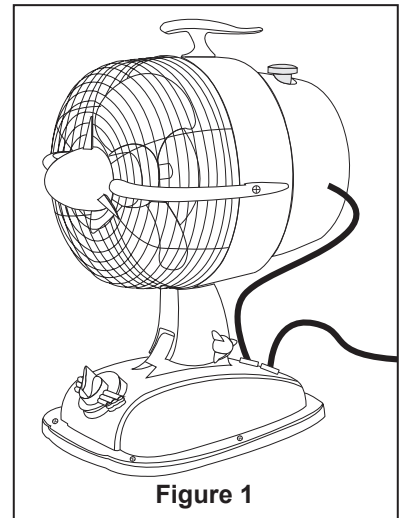

Figure 1
1. Carefully remove from package. Plug cord directly into the socket. (Figure 1)